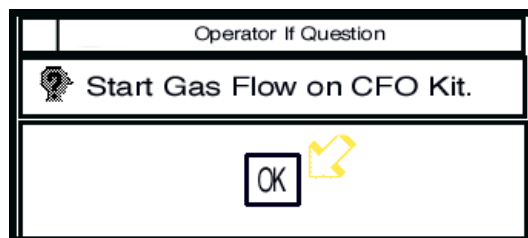

Figure 11
- 109 When the “Start Gas Flow on CFO Kit” dialog box appears, click on “OK.” See the arrow in Figure 11. Go into the test cell and note the CFO pressure and temperature for use in the next step.